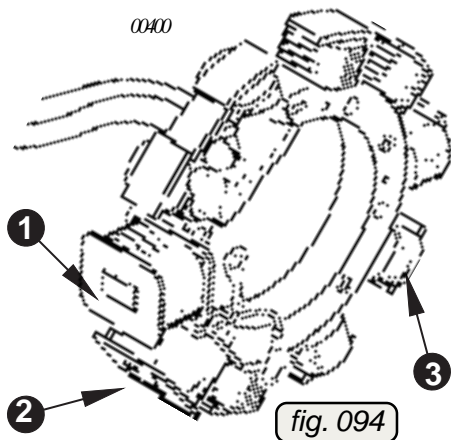

fig. 094
See fig. 094.
If the generator does not work, the reason may be a defective or squeezed yellow generator cable or a defective winding on the 8 generator coils ③ (see fig. 094). Disconnect generator cables (yellow) and check resistance values, see para 13.4.7. There must be no connection between yellow cable and ground, and the indication on the ohmmeter must be ∞. If the value measured corresponds with the values indicated, the cause may be a defective rectifier-regulator.